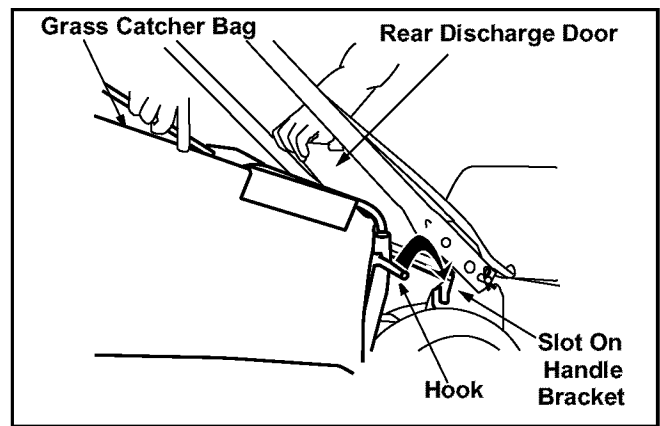

Figure 8
- Place the hooks of the grass catcher into the slots in the handle bracket assembly on each side of the lower handle as shown in Figure 8. Release the rear discharge door.